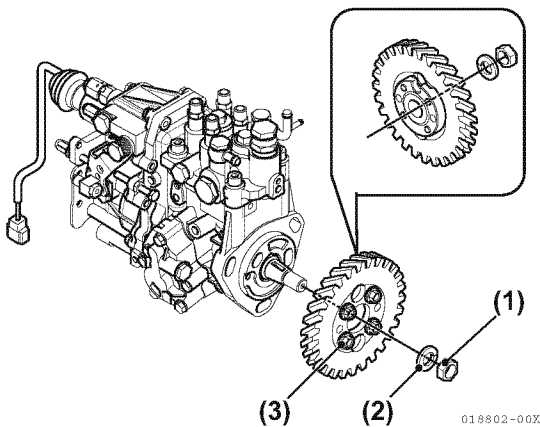

Figure 6-33
17. Do not loosen or remove the four bolts (Figure 6-33, (3)) retaining the pump drive gear to the hub. Only remove the single drive gear nut (Figure 6-33, (1)) and washer (Figure 6-33, (2)), leaving the hub attached to the gear.
18. Hold the gear train using a large socket wrench on the crankshaft pulley nut. Loosen the fuel injection pump drive gear retaining nut (Figure 6-33, (1)) and turn it out to the end of the fuel injection pump shaft.